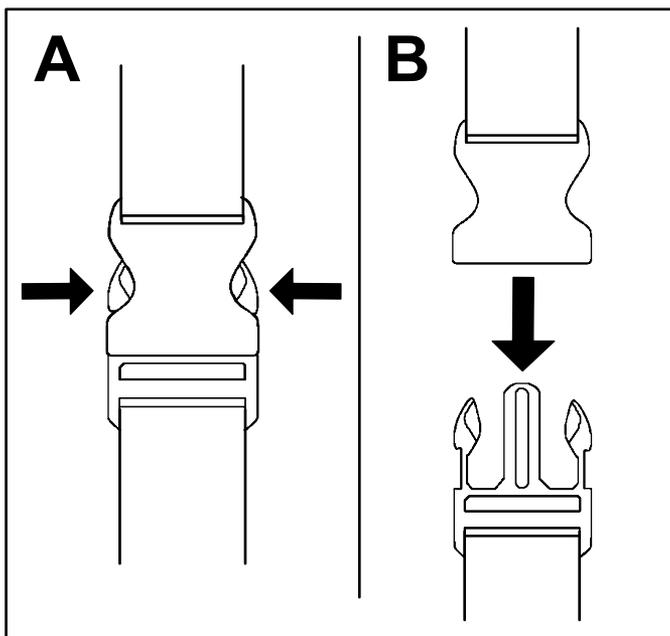

Figure 14
1. Press in on the sides of the buckle (A of Figure 14).
2. Allow the buckle to disconnect (B of Figure 14).